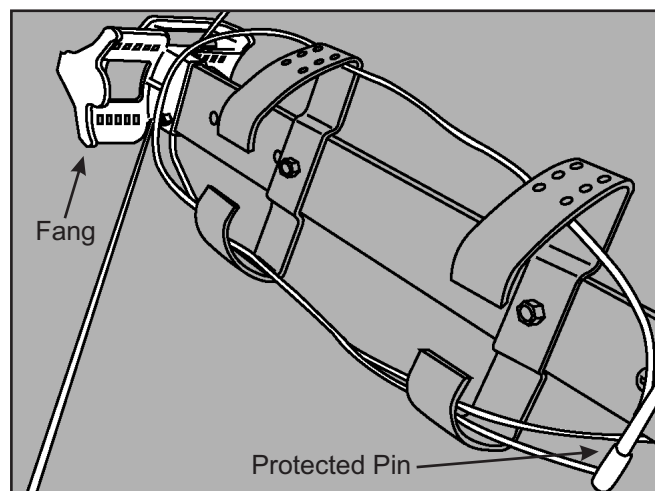
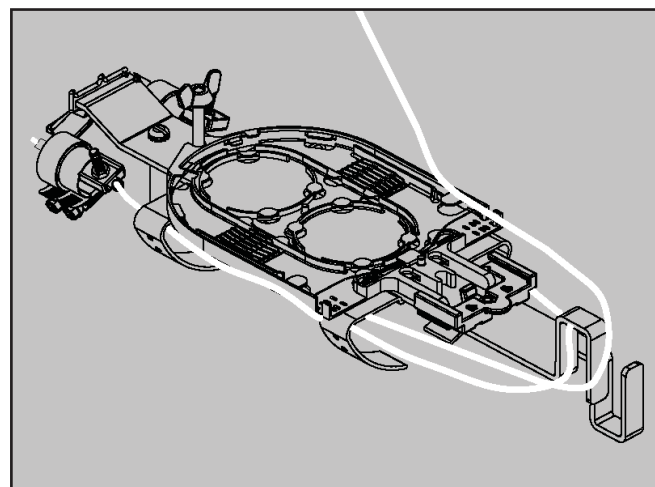
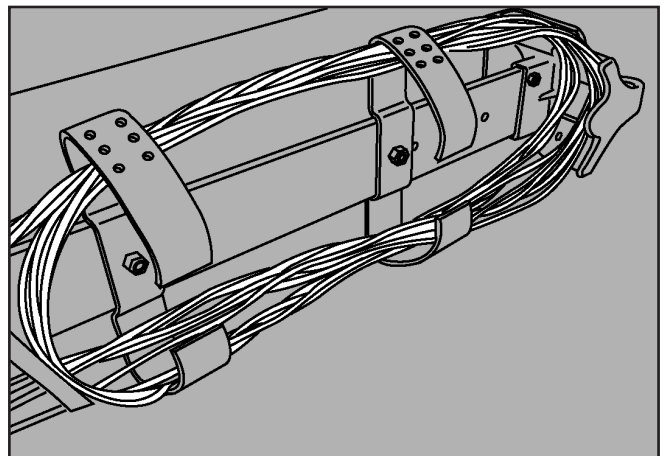

Figure 3
Figure 3a
Figure 20
3. Route the loose buffer tube inside the buffer tube bracket storage and management system keeping to the inside of the FANG™ Bracket (FG 800 & 650) or 500 Bracket (Fg500) and protected pin (End Plate end) until the final turn which passes through the outside guides of the FANG™ Bracket (Figure 3) or 500 Bracket. (Figure 3a)
20. Once the SLIDE-N-LOCK splice tray is full, re-route the buffer tubes back through the organization system keeping inside the FANG™ Brackets/500 Brackets and protected pin until the final lay-up onto the splice tray which is routed through the outside FANG™ guide (Figures 20 or 3) or 500 guide. (Figure 3a)